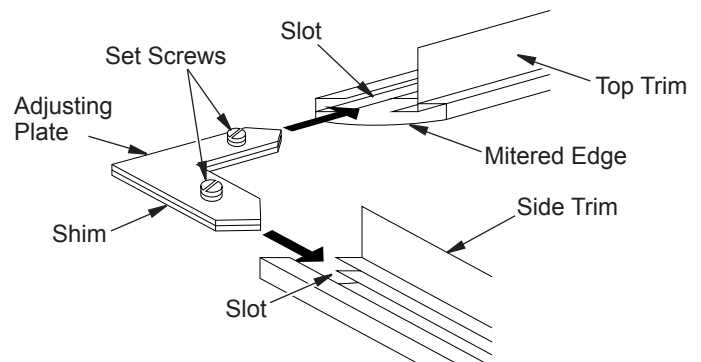

Figure 11 - Assembling Metal Firebox Trim
3. Align shim under adjusting plate as shown in Figure 11.
4. Slide one end of adjusting plate/shim in slot on mitered edge of top trim (see Figure 11).
5. Slide other end of adjusting plate/shim in slot on mitered edge of side trim (see Figure 11).